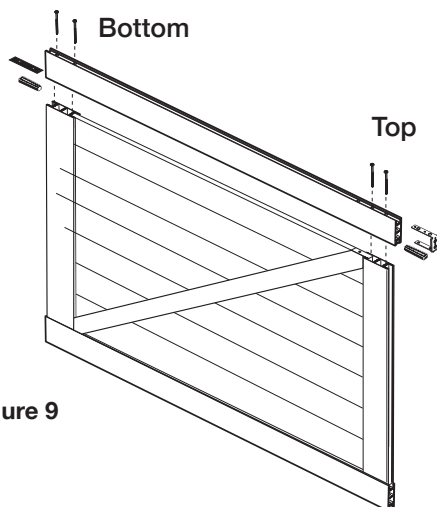

Figure 9
Make sure the holes in the extrusion on the Top rail (C) line up against the screws. Once in place, continue tightening screws until stile and rail are flush and secure. See Figure 9.